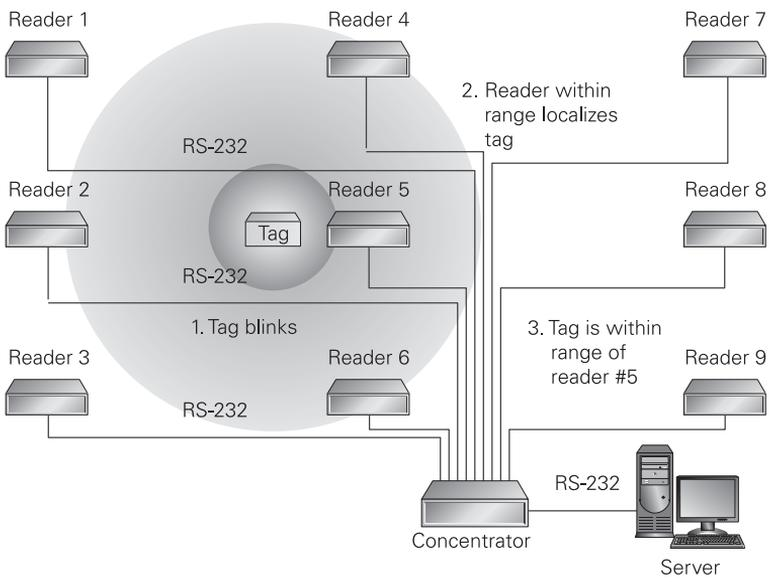

FIGURE 5.8 RTLS based on RSSI
- **Received Signal Strength Indicator (RSSI)** RSSI systems are used commonly in 802.11 wireless networks. An 802.11 wireless device becomes the tag for this type of system. Based on signal strength, the systems can determine to which receiver the transmitter is closest and then provide an approximate location for it. The accuracy of this type of system will be determined by the granularity with which the receivers were installed. More accuracy is a direct reflection of installed cost. The working principle of this type of system is showed in Figure 5-8.